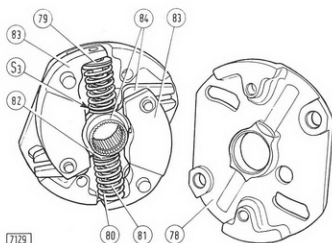
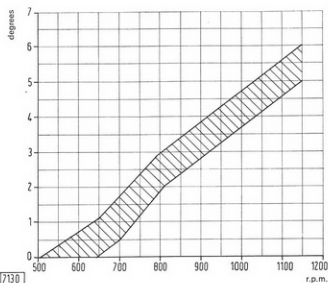
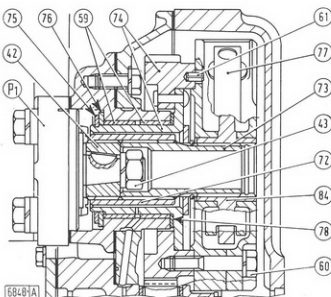

Fig. 42 - Automatic Advance Device with Cover Removed
Fig. 44 - Advance Device Operating Curves
Fig. 46 - Section through Advance Device and Injection Pump Drive
Injection Pump Drive Inner washer thickness (see 78, Fig. 46) Outer washer thickness (76) Hub O.D. (74) Bush fitted I.D. (59) Hub running clearance in bushes Bush interference fit	1.45 to 1.50 mm. (.057 to .059 in.) 2.93 to 3.00 mm. (.115 to .118 in.) 49.975 to 50.000 mm. (1.9675 to 1.9685 in.) 50.050 to 50.075 mm. (1.9705 to 1.9715 in.) .050 to .100 mm. (.002 to .004 in.) .066 to .142 mm. (.003 to .006 in.)
Drive to the pump is transmitted through gear (74, Fig. 46), advance device (77), drive sleeve (73) and serrated bush (42).
Fig. 42) opposed by two pairs of control springs which alter the angular position of the slotted link (84) keyed to the drive sleeve (73, Fig. 46), in response to variations in rotational speed.
Check that the angle displacement, as evidenced by the movement of the light spot, falls within the tolerance band indicated in Fig. 44. If the results obtained are unsatisfactory, dismantle the advance device and alter the thickness of spring pre-load shims (S_p , Fig. 42), or renew the springs as necessary.